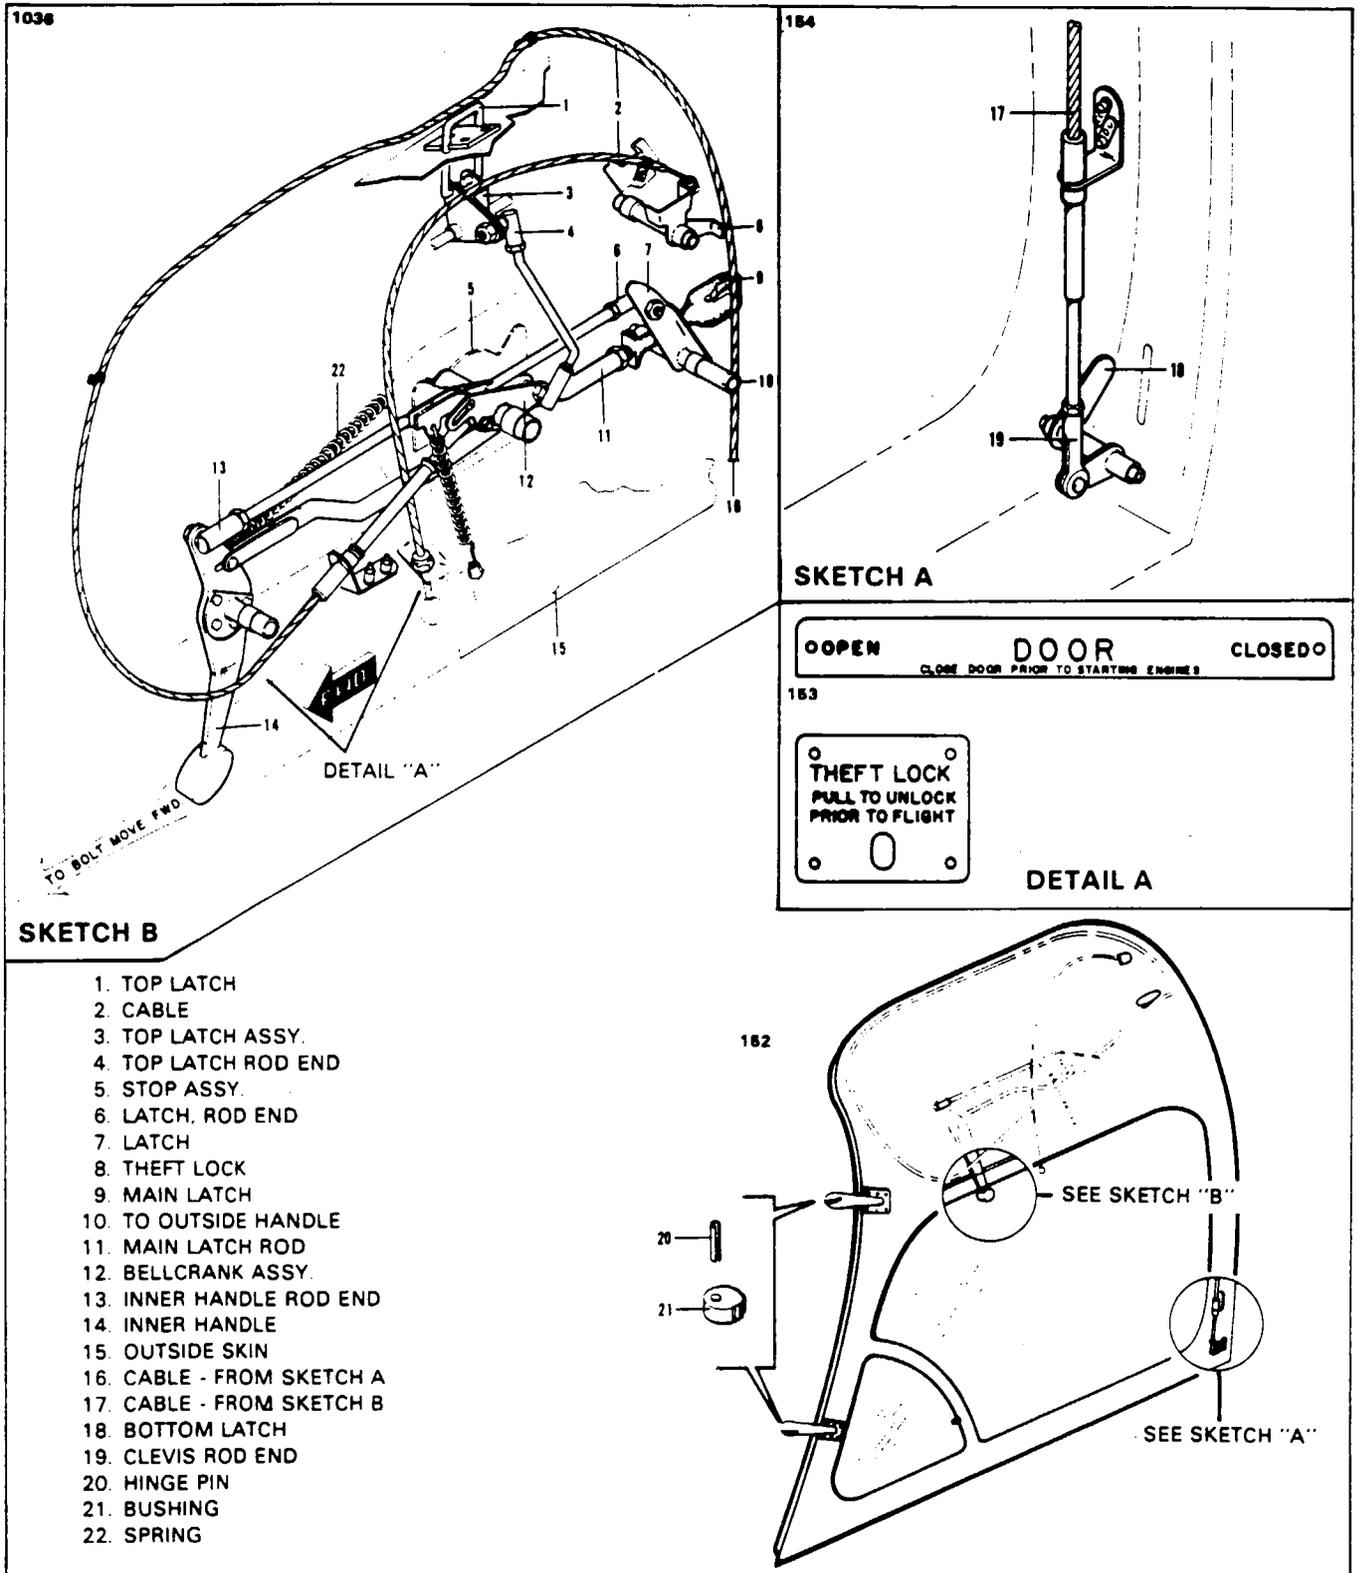

Figure 52-2. Pilot's Door Latch Assembly
**REMOVAL OF PILOT DOOR.** (Refer to Figure 52-2.)
**INSTALLATION OF PILOT DOOR.** (Refer to Figure 52-2.)
**ADJUSTMENT OF PILOT DOOR.** (Refer to Figure 52-2.)